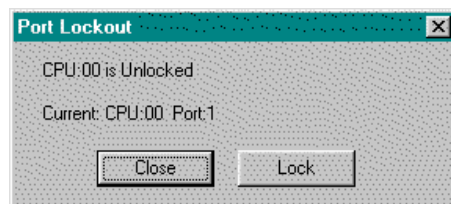

Figure 6.12a
1. Click Port Lockout from the PLC Utilities menu (Alt+U, O). The Port Lockout dialog box appears (Figure 6.12a). Click **Lock or Unlock** from the Port Lockout on the Port Lockout dialog box.